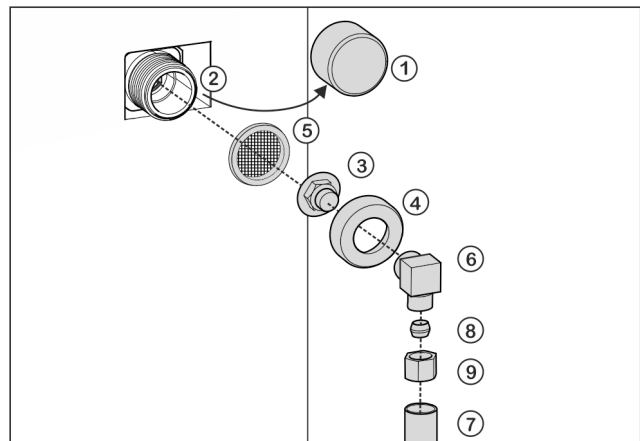

Fig. 26
- ▶ Remove cap *Fig. 26 (1)* from solenoid valve *Fig. 26 (2)*.
- ▶ Insert coupler *Fig. 26 (3)* into union nut *Fig. 26 (4)*.
- ▶ Insert the filter *Fig. 26 (5)* with the recess pointing down towards the coupler *Fig. 26 (3)*.
- ▶ Screw the union nut *Fig. 26 (4)* by hand onto the thread of the solenoid valve *Fig. 26 (2)* until it is firmly in place.
- ▶ Screw on angle piece *Fig. 26 (6)*.
- ▶ Connect the water pipe *Fig. 26 (7)* (e. g. 1/4" OD copper pipe) with the clamp ring *Fig. 26 (8)* and nut *Fig. 26 (9)* to the elbow connector *Fig. 26 (6)*.
- ▶ If necessary: Fasten the water pipe *Fig. 26 (7)* to the housing with the guide clip.
- ▶ Put angle piece *Fig. 26 (6)* to one side.
- ▶ Connect the water pipe *Fig. 26 (7)* (e. g. 1/4" OD copper pipe) with the clamp ring *Fig. 26 (8)* and nut *Fig. 26 (9)* to the coupler *Fig. 26 (3)*.